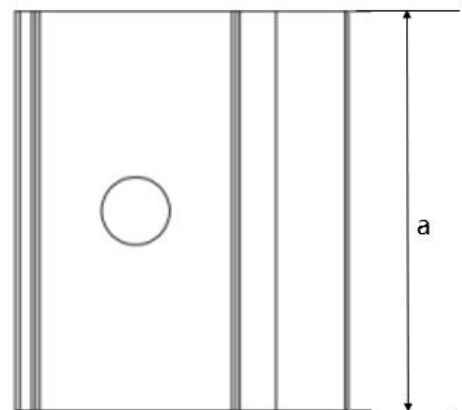

Fig. 7 Top view of fringe clamp
① Place the module on the two supporting rails (not provided by Astronergy) which should be made with stainless material and treated with an anti-corrosion process (e.g. hot dipped galvanizing). Each PV module needs at least four clamps to be fixed. The module clamps should not come into contact with the glass and should not deform the frame, otherwise they may cause module damage.
② Be sure to avoid shadowing effects from the module clamps. Weep holes on the module frame must not be closed or obscured by the clamps. The clamp must have an overlap of 8-11mm with the frame of the module and should not extend beyond it (The clamp section can be changed under the premise of ensuring reliable installation).
③ The top surface of the rail contacted with module frame should be equipped with grooves compatible with an M8 bolt.
④ If the grooves are not provided, holes of a suitable diameter may need to be drilled to allow bolts attaching to the rail at the same locations as mentioned above.
⑤ Ensure that the mounting sequence of each clamp is in the order of flat washer, spring washer and nut.
⑥ Figures 7 and 8 show the schematic diagram of the